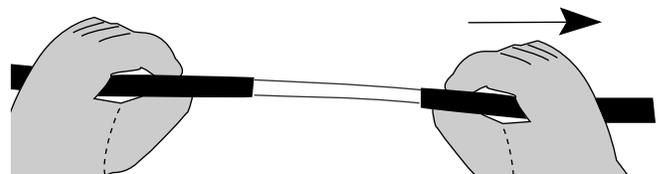

Figure 9
4.12 Slide the end section of sheath and armor off the cable and discard (Figure 9).